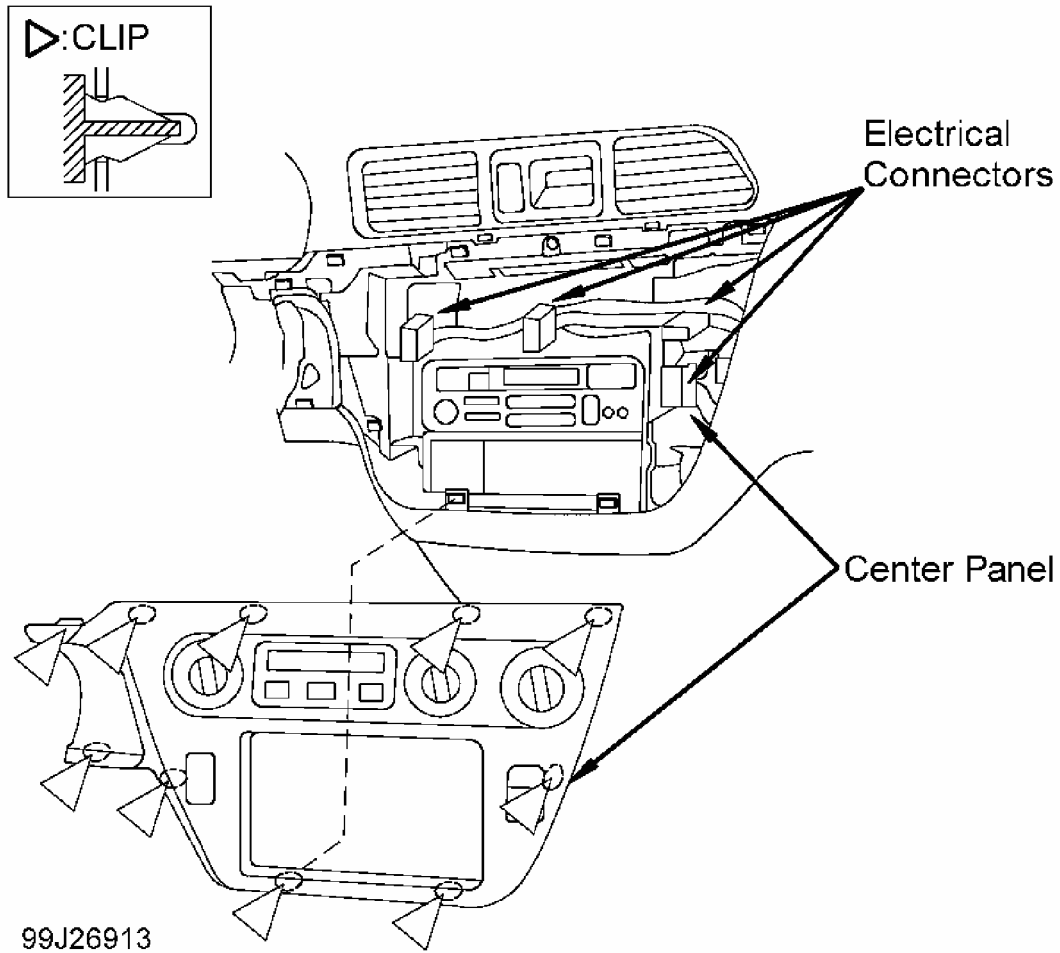

Fig. 17: Identifying Center Panel
3. Place tilt steering column in Neutral position. Remove retaining screws from lower steering column cover and remove upper and lower steering column covers. See **Fig. 10** . Carefully pull out on center panel to release retaining clips. See **Fig. 17** . Disconnect center panel electrical connectors and remove center panel.